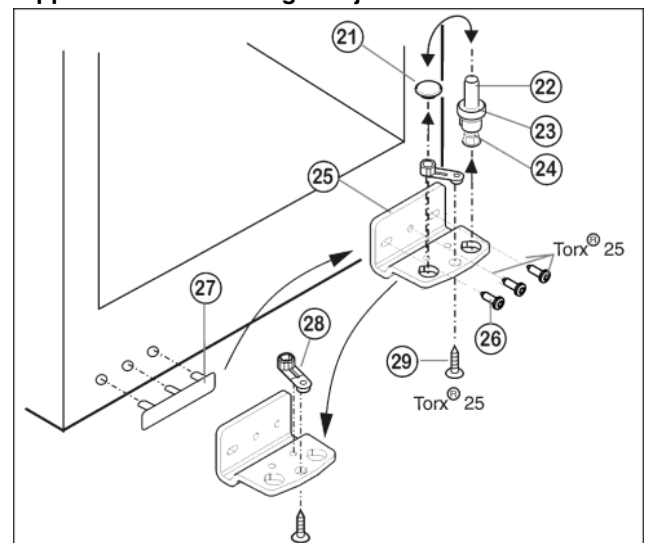

Fig. 12
- Remove complete bearing stud Fig. 12 (22) by pulling upwards, together with washer Fig. 12 (23) and base Fig. 12 (24).
- ▶ Lift out plug *Fig. 12 (21)*.
- ▶ Unscrew and remove mounting block *Fig. 12 (25)*.
- ▶ Unscrew storage section *Fig. 12 (28)* and fit it to the opposing locating bore in the mounting block, then tighten it down.
- ▶ Carefully remove cover on handle side *Fig. 12 (27)* and place it on the reverse side.
- ▶ Screw mounting block *Fig. 12 (25)* back down on new hinge side, if necessary using a cordless screwdriver (to a torque of 4 Nm).
- ▶ Insert the plugs *Fig. 12 (21)* again on the other side of the door.
- ▶ Re-install complete bearing stud *Fig. 12 (22)*, together with washer and base. Ensure here that the catch mechanism points backwards.
- ▶ Fit lower door onto lower bearing stud *Fig. 12 (22)* from above.